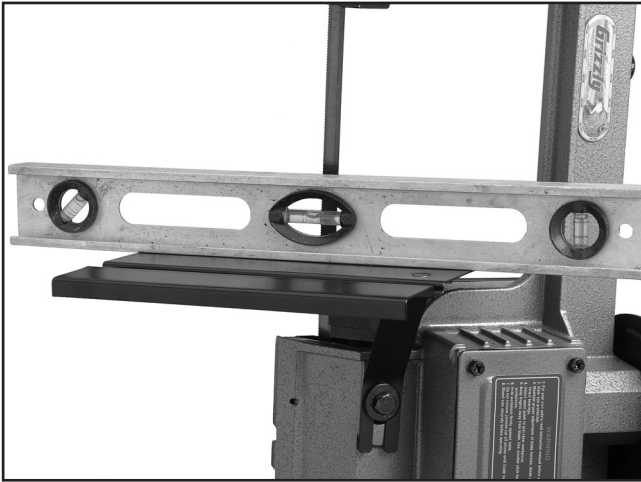
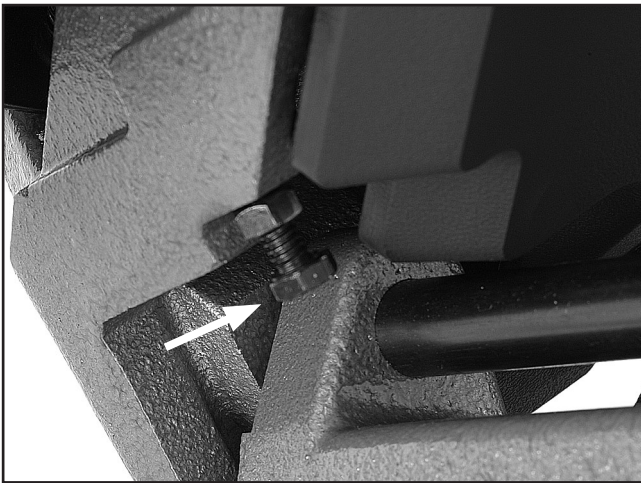

Figure 23. Adjusting table level.
Figure 24. Adjustment bolt.
5. Place a level on the table, as shown in **Figure 23**, and adjust the adjustment bolt shown in **Figure 24** until the table is level.